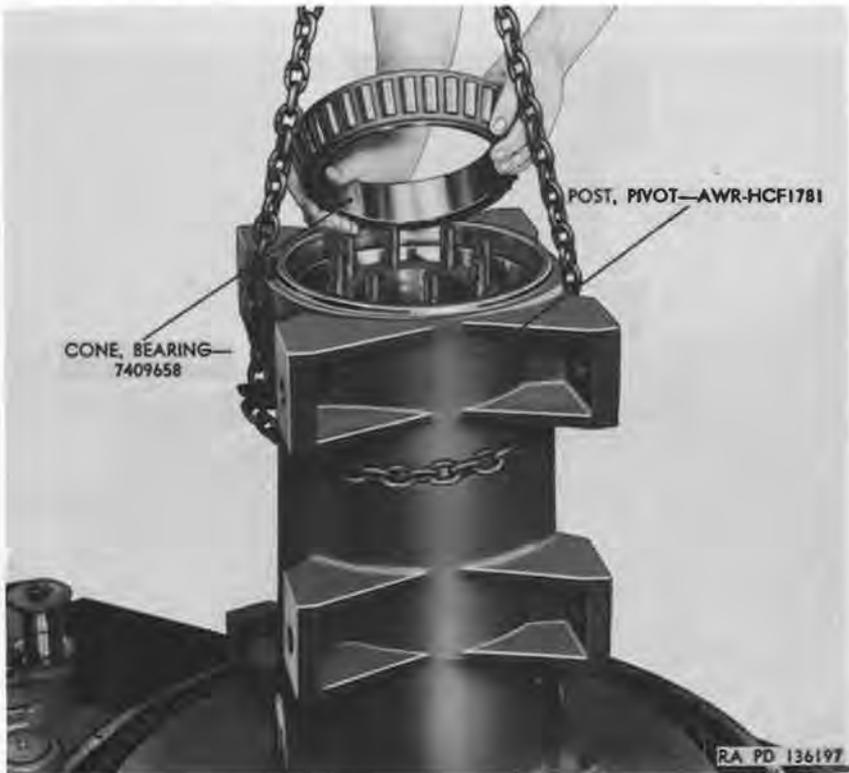
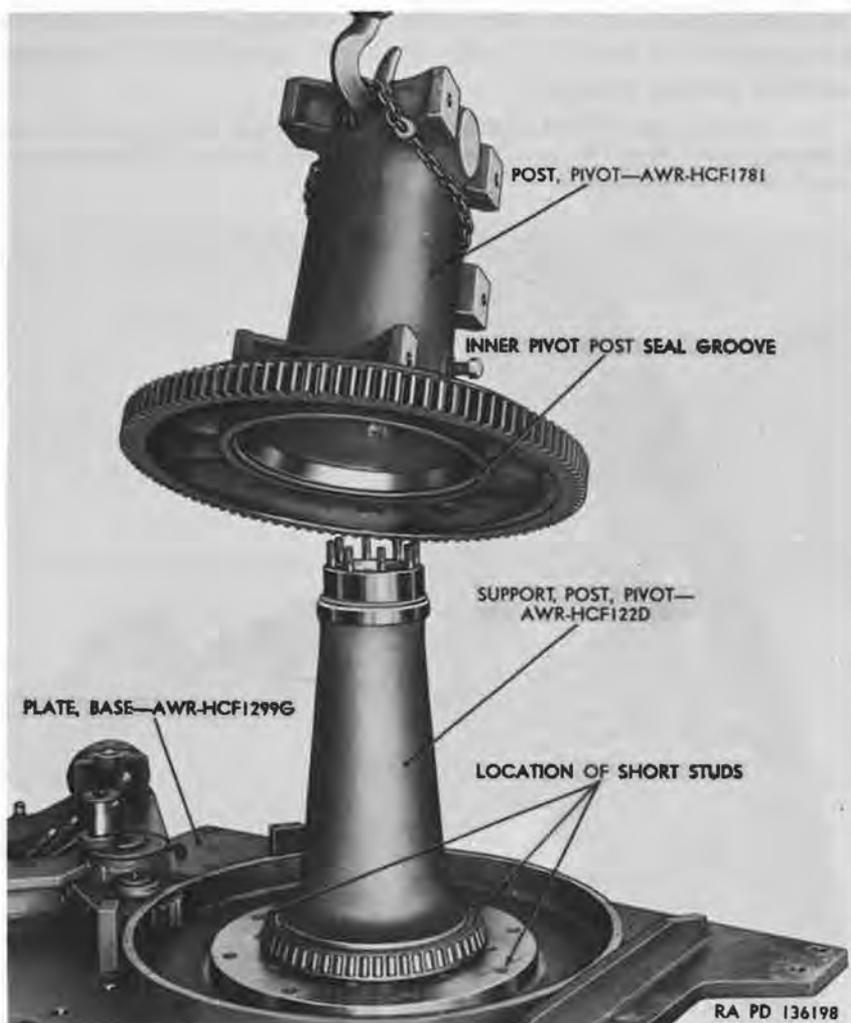

Figure 45. Removing bearing cone from pivot post.
Figure 46. Removing pivot post from base plate.
- (4) Attach chain hoist to pivot post and lift high enough to permit removal of bearing cone. Remove bearing cone (fig. 45). Continue lifting pivot post until it is free from pivot post support (fig. 46).
- (1) There are 16 studs installed in the pivot post support to mount it to the base plate. Three of these studs are slightly shorter than the others in order to provide clearance. For installation position of short mounting studs, refer to figure 46.
- (2) Install thirteen 1-8NC-5 ( $1\frac{1}{8}$ ) x 1-14NF-3 ( $1\frac{11}{16}$ ) x  $3\frac{3}{4}$  mounting studs (AC) and three 1-8NC-5 ( $1\frac{1}{8}$ ) x 1-14NF-3 (1) x  $3\frac{1}{16}$  mounting studs (N) on bottom side of pivot post support (P). Attach an overhead hoist to pivot post support and position on base plate (J). Install thirteen 1-14NF-3 safety nuts (AE) on long mounting studs and three 1-14NF-3
- (3) Install bearing cone (R) at base of pivot post support (P). Position bearing cup (S) in pivot post (BB). Tap cup lightly around edges with a soft hammer until it is seated in pivot post. Make sure cup does not become cocked. Install bearing cup (CC) in swivel valve end of pivot post in same manner. Install inner pivot post seal (T) in groove (fig. 46) in base of pivot post. Install eight  $\frac{5}{8}$ -11NC-5 ( $\frac{3}{4}$ ) x  $\frac{5}{8}$ -18NF-3 ( $1\frac{1}{16}$ ) x  $2\frac{1}{2}$  stud (Q) in swivel valve end of pivot post support for securing pivot post support cap.